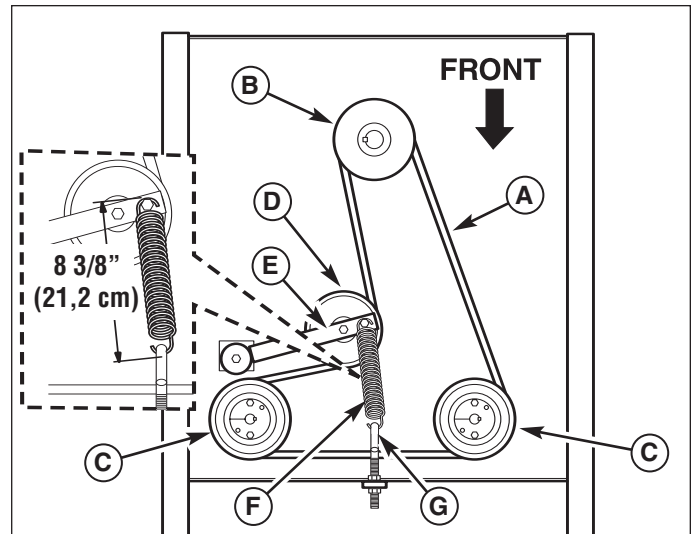

Figure 37. Hydraulic Pump Drive Belt Replacement
4. Loosen the nut towards the front of the machine on the spring anchor hook (G, Figure 37) to release the majority of the belt tension. Use caution and remove the nut to completely release the tension.
6. Reinstall the anchor hook (G) into the anchor tab and loosely fasten the nut. Adjust the anchor hook until a measurement of 8-3/8" (21,2 cm) is achieved from the outside of the spring hooks. Tighten nut.